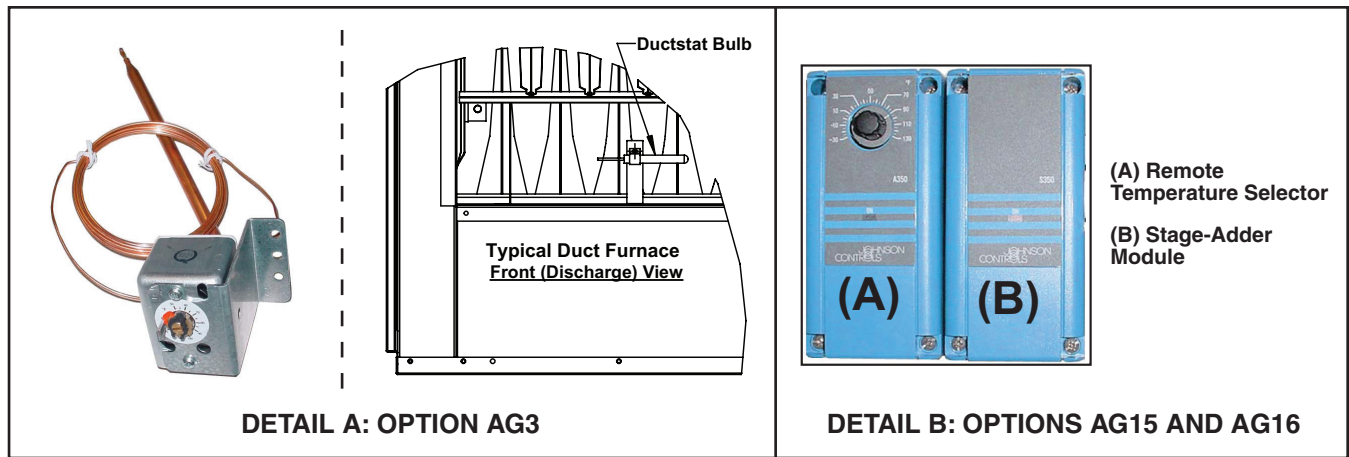

Figure 11. Ductstat Options
- Depending on the option selection, the factory-installed sensor is either field-connected by capillary tubing to the unit-mounted ductstat (see **Figure 11**, DETAIL A), which is factory-set at 70°F, or electrically-connected to a remote electronic temperature selector (see **Figure 11**, DETAIL B).
The unit-mounted ductstat shown in **Figure 11**, DETAIL A has an adjustable range between 0°F and 100°F with a fixed differential of 3°F. Due to different cfm settings and outside air temperatures, the average downstream outlet temperature may not match the ductstat setting exactly. After the installation is complete, adjust the setpoint of the ductstat to achieve the desired average outlet air temperature.
The field-installed sensing probe is field-wired to the remote temperature selector shown in Figure 11, DETAIL B, which has a temperature operating range to 130°F. The remote modules and sensing probe are shipped separately for field-installation. Follow the wiring diagram provided with the unit and the manufacturer's instructions for wiring and installation. One module is for selecting temperature and one module is a one-stage adder module.